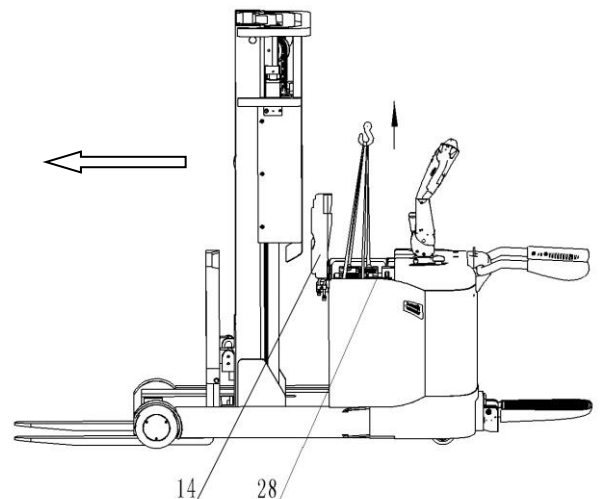

Fig. 12: battery replacement
Park the truck securely and switch off the stacker with the key (8) and activate the emergency button (6). Push the mast forward according to Fig. 12, open the battery cover (14), disconnect the battery plug, then remove the battery with a crane. If you don't push the mast forward, then open the battery cover (14), loosen the screw and take away the battery cover, then remove the battery with a crane. The installation is in the reverse order of the removal. Otherwise the tuck could be damaged.